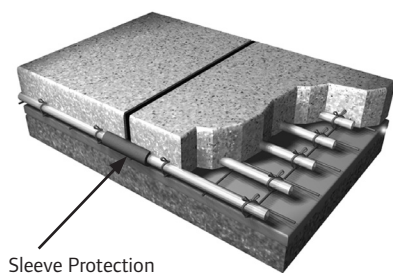

Figure 5-1: Sleeve Protection
- If the tubing runs through an expansion joint, protect with a sleeve or dip below the joint. See **Figures 5-1 and 5-2**.